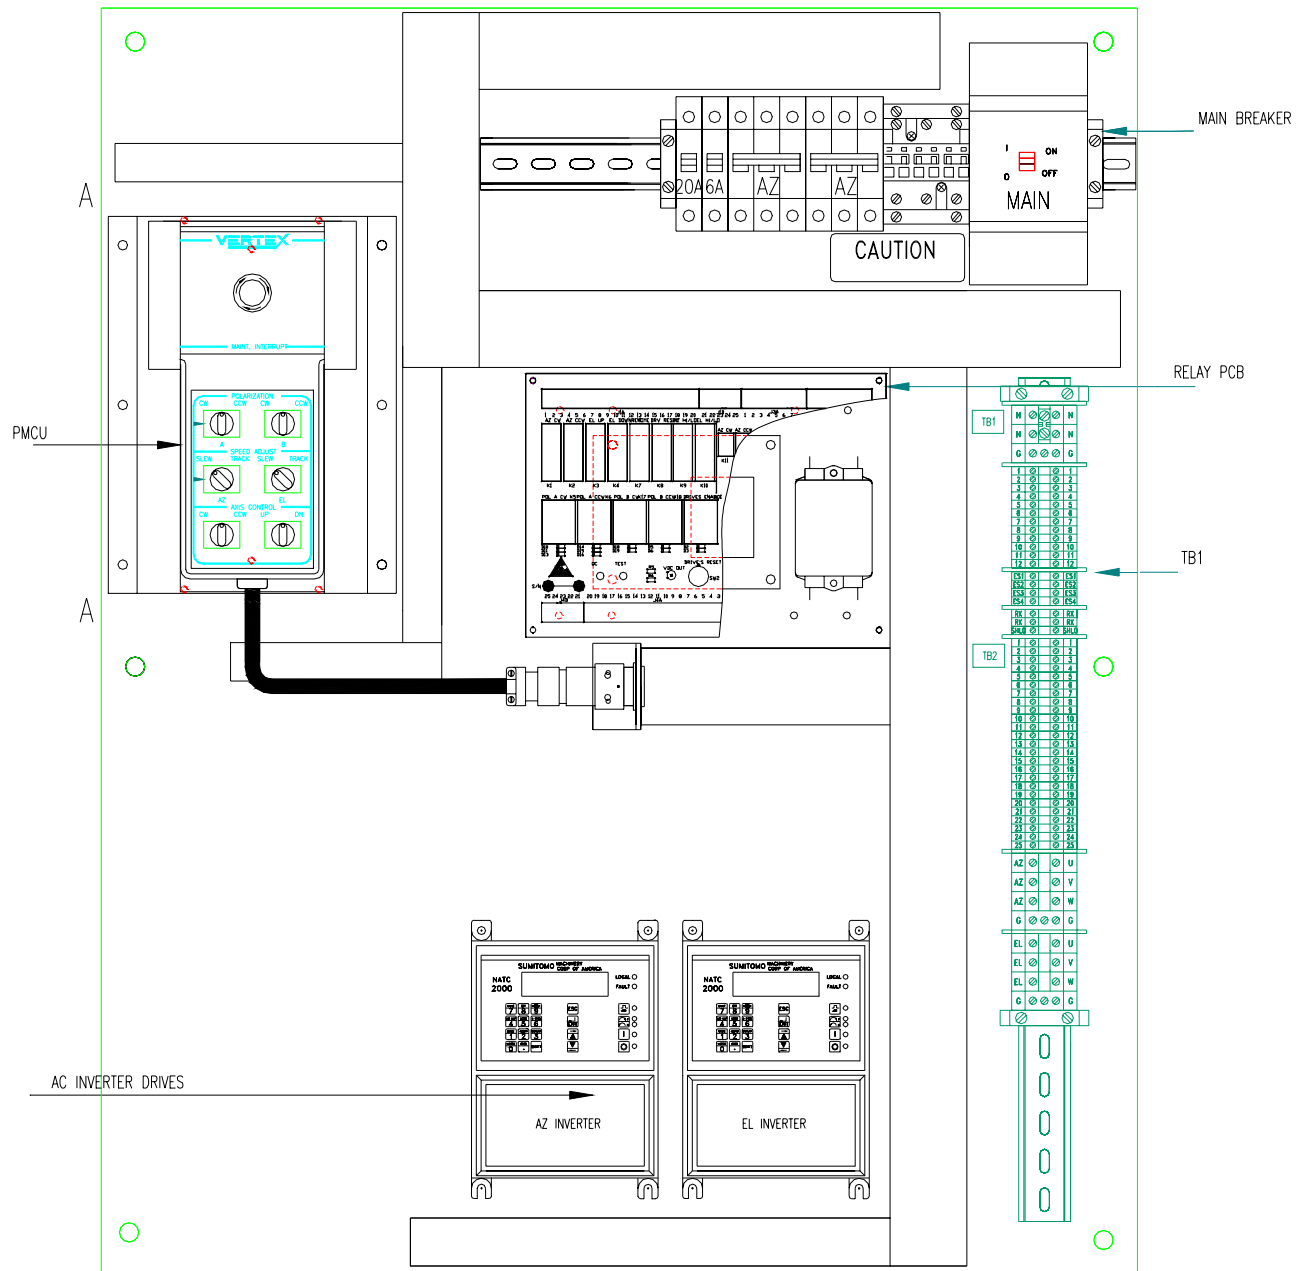

Figure 2-3 Drive Cabinet Assembly
4. Connect the three-phase line leads to the line side (top) of the main circuit breaker in the upper right corner of the drive cabinet. Refer to Figure 2-3 for a drawing of the drive cabinet.